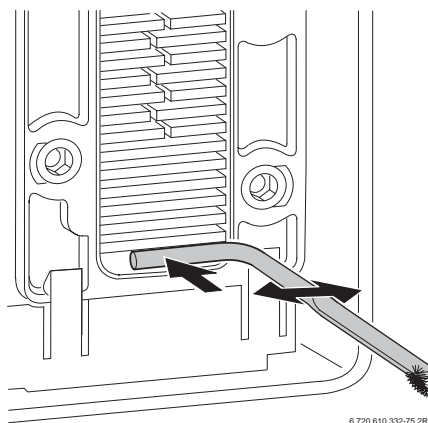

Fig. 56
- ▶ Flush the heat exchanger from the top. Refer to fig. 56.